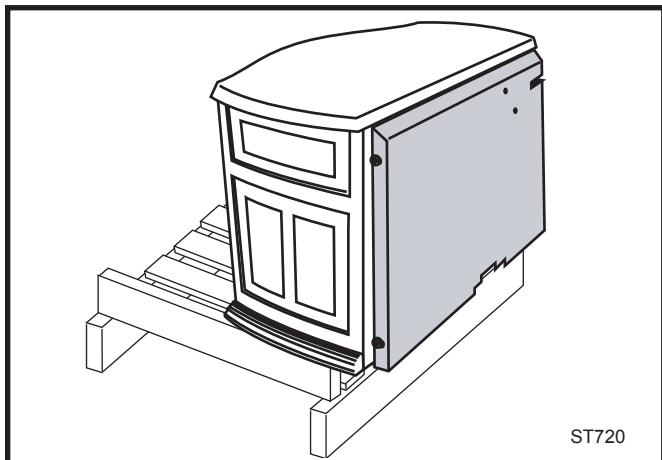

Fig. 7 Slide stove back just enough to access rear leg holes.
1. Slide stove to the rear of the pallet just far enough to access rear leg holes. Make sure the stove does not tip over backwards. (Fig. 7)